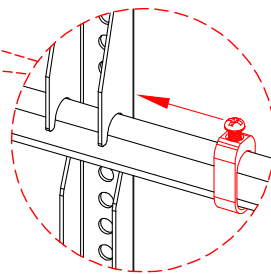

Figure 5A
3. Slide one Stopping Block so it is firmly touching the Bracket (2) attached to the TV. Then slide the other Stopping Block so it is firmly touching the opposite Bracket (2). (Fig. 5A)